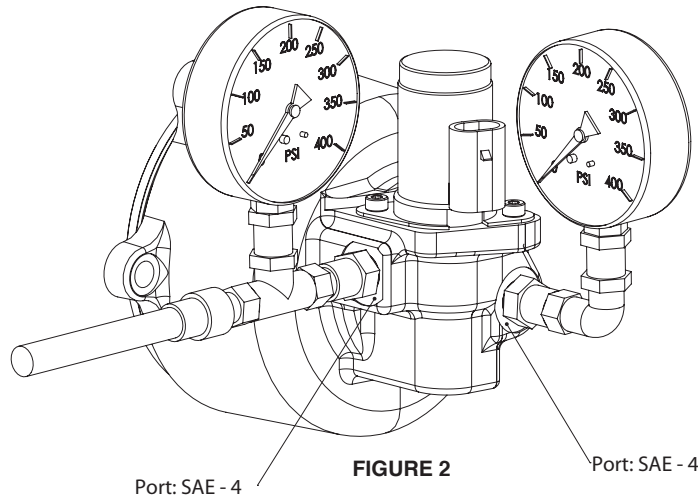

FIGURE 2
4. Remove the pressure switch from the FR66 end cover and place a second 400 PSI pressure gauge in the pressure switch port as shown in figure 2 below.